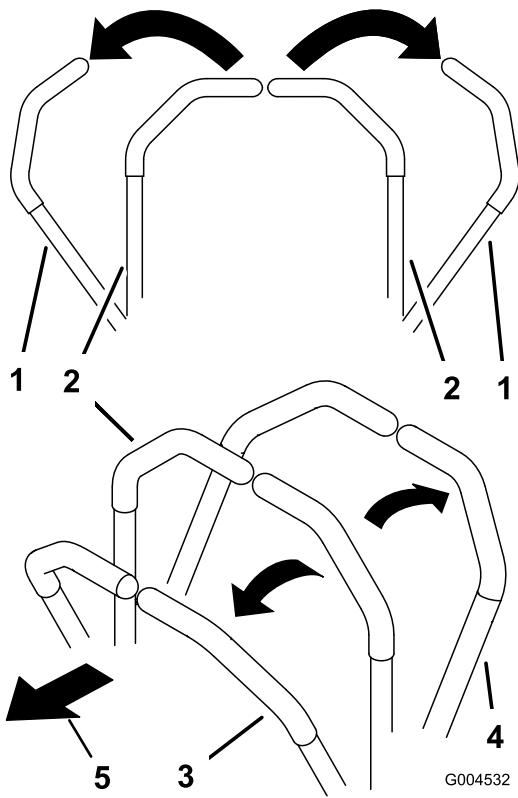

Figure 18
1. Move the motion-control levers out to the NEUTRAL-LOCKED position (Figure 18).
- To drive straight forward, slowly push the motion-control levers forward (Figure 18).
- To drive straight backward, slowly pull the motion-control levers rearward (Figure 18).
- To turn, slow the machine by pulling back on both levers and then push forward on the lever on the opposite side from which you want to turn (Figure 18).